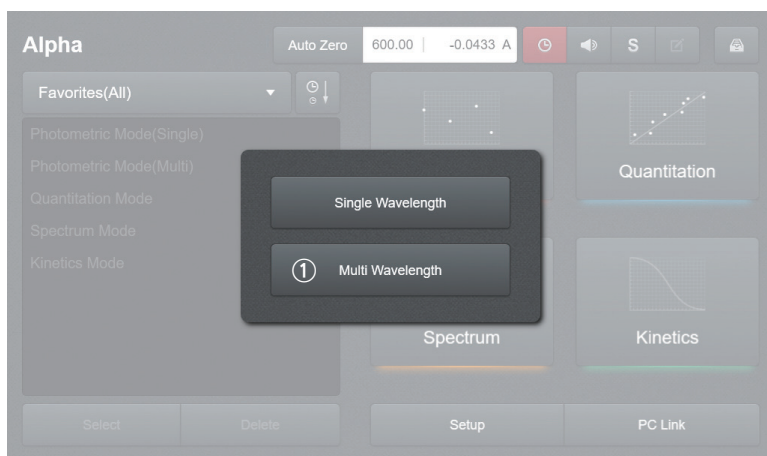

Fig. 3.14
1. [Fig. 3.14] Select ① **Multi Wavelength** Mode on the main page.